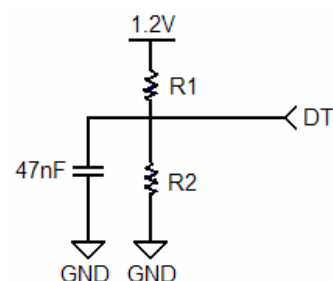
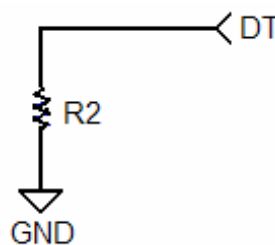

FIGURE 27A.
FIGURE 27B.
The QLx4300-S45 is capable of maintaining periods of line silence on any of its four channels by monitoring each channel for loss of signal (LOS) conditions and subsequently muting the outputs of a respective channel when such a condition is detected. A reference current applied to the detection threshold (DT) pin is used to set the LOS threshold of the internal signal detection circuitry. Current control on the DT pin is done via one or two external resistors. Nominally, both a pull-up and pull-down resistor are tied to the DT pin (Figure 27A), but if adequate control of the supply voltage is maintained to within  $\pm 3\%$  of 1.2V, then a simple pull down resistor is adequate (as in Figure 27B). Resistors used should be at least 1/16W, with  $\pm 1\%$  precision.
The internal bias point of the DT pin, nominally 1.05V, is used in conjunction with the voltage divider (R1 and R2) shown in Figure 27A to set the reference current on the DT pin.
For channels exhibiting more than 25dB of total loss (this includes cable or FR-4 loss) the DT pin should be configured for a reference sink current (coming out of the DT pin) of approximately 2 $\mu$ A. A typical configuration for a 2 $\mu$ A sink current is given in Figure 27C. If the configuration in Figure 27B is utilized, a 525k $\Omega$  resistor is used.